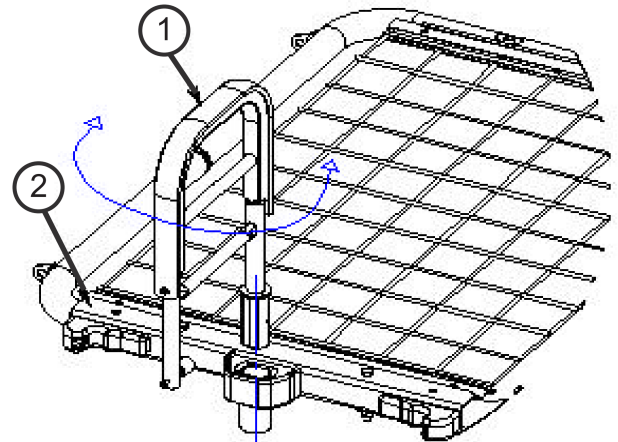

Figure 4
1. Insert the assist handle into the mounting bracket as shown in Figure 4. The assist handle must be perpendicular to the sleep surface.